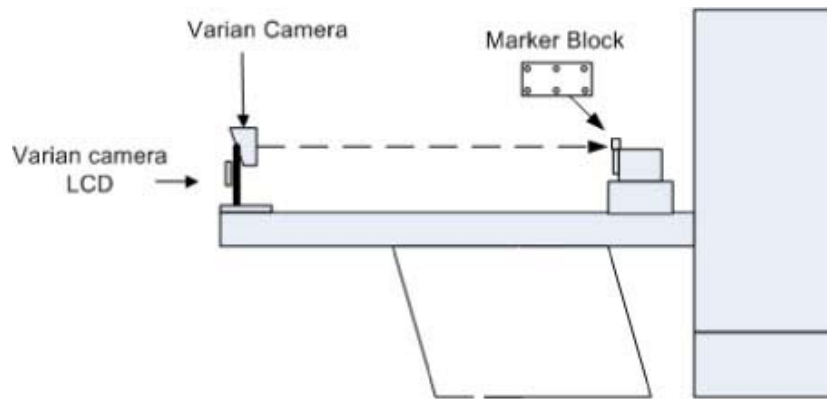

Figure B-1 Alternate Camera/Breathing Phantom setup
- 3.) Tape the Marker block to the plastic tab on the Breathing Phantom. (Refer to Figure B-1). The Marker Block should be taped so the 6 "Dots" can be setup to face the Varian Camera and the rotation of the wheel on the Phantom is free to turn, which will move the plastic tab and Marker Block during its rotation. (The camera must "See" these 6 dots moving up and down).